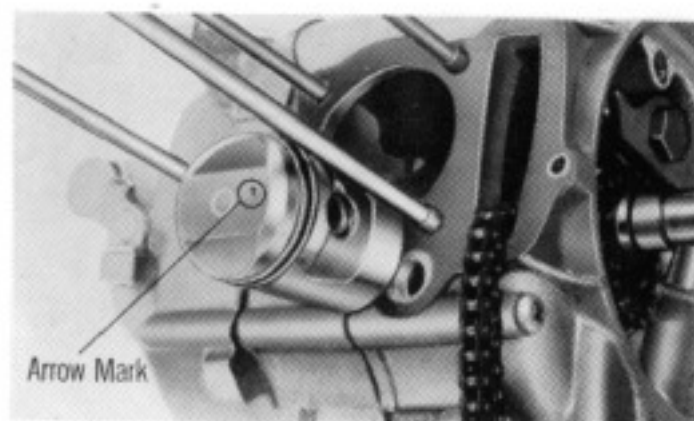

Fig. 35
1. When assembling the piston to the connecting rod, make sure that the arrow mark on the piston head is pointing downward. (Fig. 35).